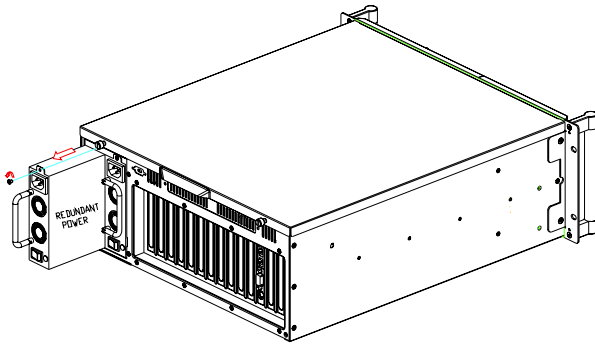

Figure 3.9: Replacing the power supply module
3. Loosen the screw on the failed module and then grab the handle to gently pull it out. (see *Figure 3.9*).